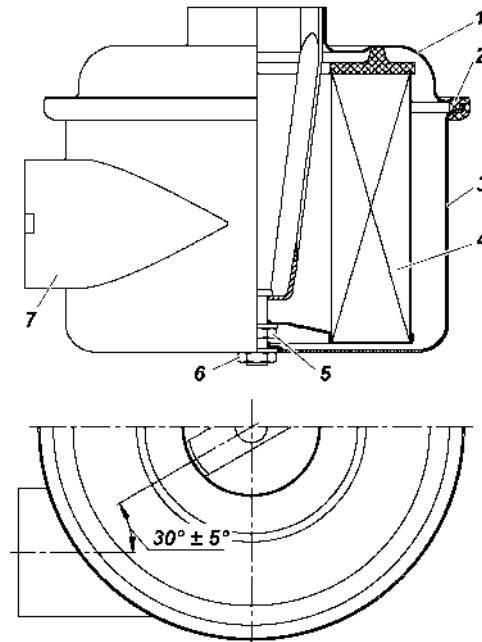

Fig. 9.9 Air Filter:
- unscrew the nut 6 (fig. 9.9) and remove the cover with filter cartridge 1 from filter housing 4;
- install a new filter cartridge, assemble the air filter with the cover oriented relative to the housing as shown in Fig. 9.9;